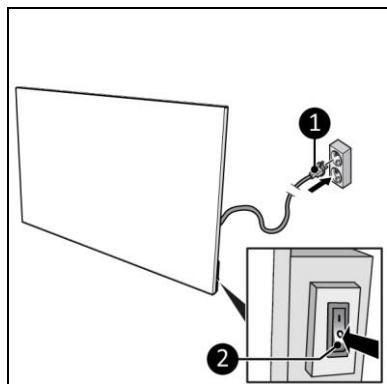

Figure 10
12. Make sure the ON/OFF switch is in the OFF position (Figure 10, pos. 2).
13. Place the power plug (Figure 10, pos. 1) into an earthed wall socket that is easily accessible. Use an earthed wall socket with a minimum power of 800 Watt.
1. Make sure the ON/OFF switch is in the OFF position (Figure 10, pos. 2).
2. Disconnect the power plug from the power outlet (Figure 10).